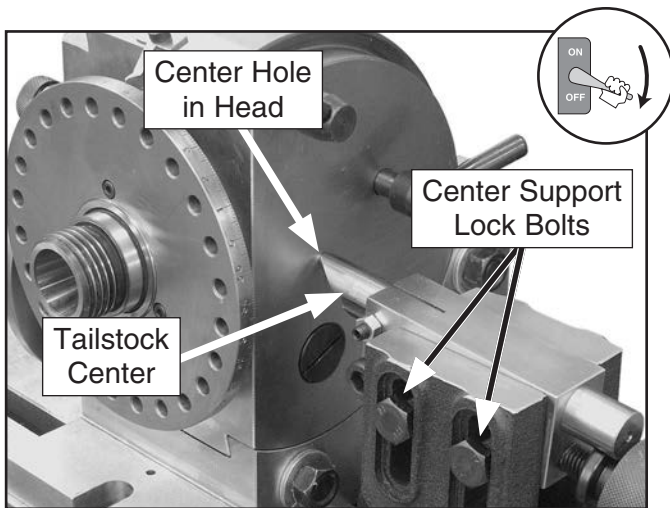

Figure 9. Tailstock center contacting the center hole of the dividing head.
3. Install the tailstock so that its center is aligned with the center hole in the side of the dividing head, as shown in **Figure 9**.